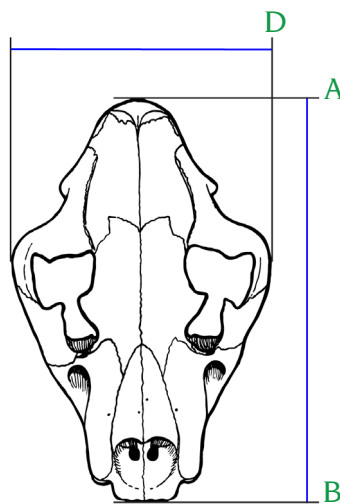

Figure 1
1. Length. Establish the outer limits of the length of the skull. Measure with a caliper along the skull length-wise axis. Measure the distance between the caliper. (Figure 1, A–B)
2. Width. Establish the outer limits of the width of the skull at a 90-degree angle of the skull axis using a caliper. Measure the distance between points of the caliper. (Figure 1, C–D)